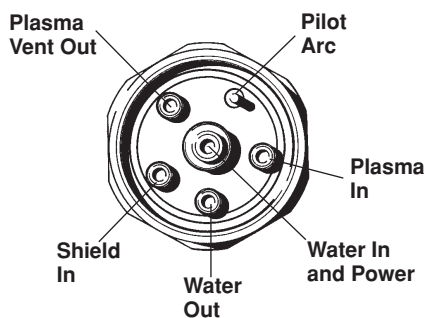

Figure 3-31 PAC184/PAC186 Torch Gas, Coolant and Pilot Arc Port Locations
1. Align the PAC184 or PAC186 torch ports to the torch quick disconnect receptacle, then push into place. See Figure 3-31.